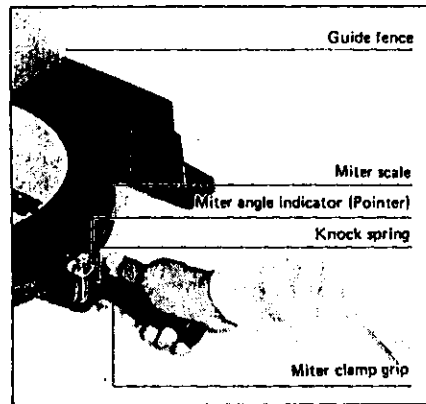

Fig. 7
2. Press down with your thumb on the knock spring as shown in Fig. 7. This releases the knock pin and allows the turn base (table) to turn freely.